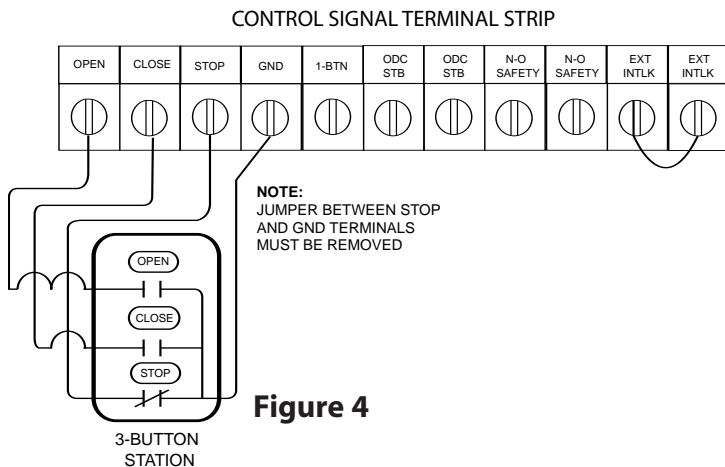

Figure 4
- 1) For a single 3 - button installation, make connections as shown in **Fig. 4.**